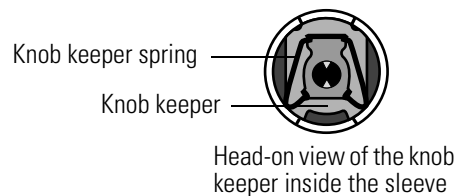

Figure 3.17 Knob return spring in position
2. Use a pair of needle-nosed pliers to insert the knob keeper spring into the sleeve. Using the pliers, work the spring into position so that the spring is gripping the knob keeper, as shown in Figure 3.17.